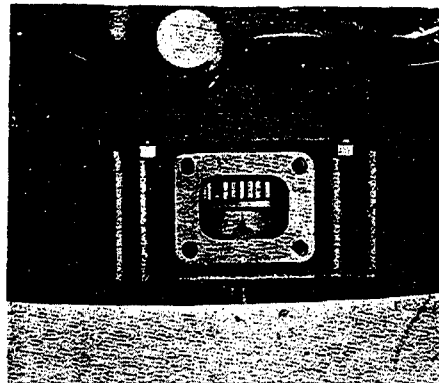

Fig. 3-22 Timing mark on flywheel
- 3) When injection pump needs to be removed for adjustment or servicing, try to learn how to set it right again, memorizing especially in what relation the match mark on injection pump flange part is to the mark on the flange plate. (Refer to Fig. 3-22) Before it is fixed again, never run the engine lest the injection timing should go wrong. For removing, take the following steps. Loosen clamp bolts that fasten pump flange to engine crankcase with a socket wrench fitted on the end of universal joint. Then, unfasten cover from timing gear case and separate injection pump gear from pump camshaft. To leave the gear in mesh with idler in gear case will make the pump setting much easier don't disjoin autotimer from the gear, for easier operation in installment. Having removed injection pump, put caps on delivery valve holders to keep off dust.